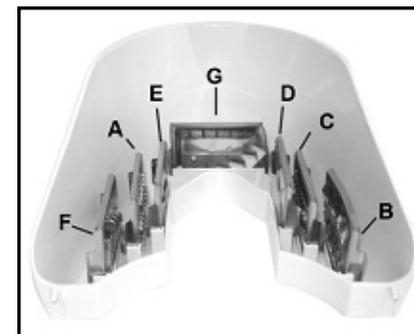

Fig. 18
2. Place blades into the assigned slots inside as shown below. (Fig. 18)